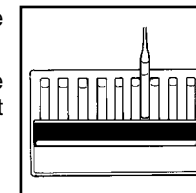

Figure 2
5. Obtain a test result by placing the ampoule between the color standards until the best color match is found (fig. 2).